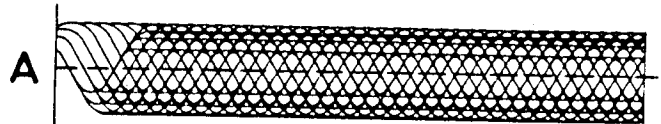

Fig. 24
3. With potentiometer R3155 adjust the EFM signal to $2V_{pp} \pm 10\%$, see fig. 24. The potentiometer is accessible from the bottom of the CDM.